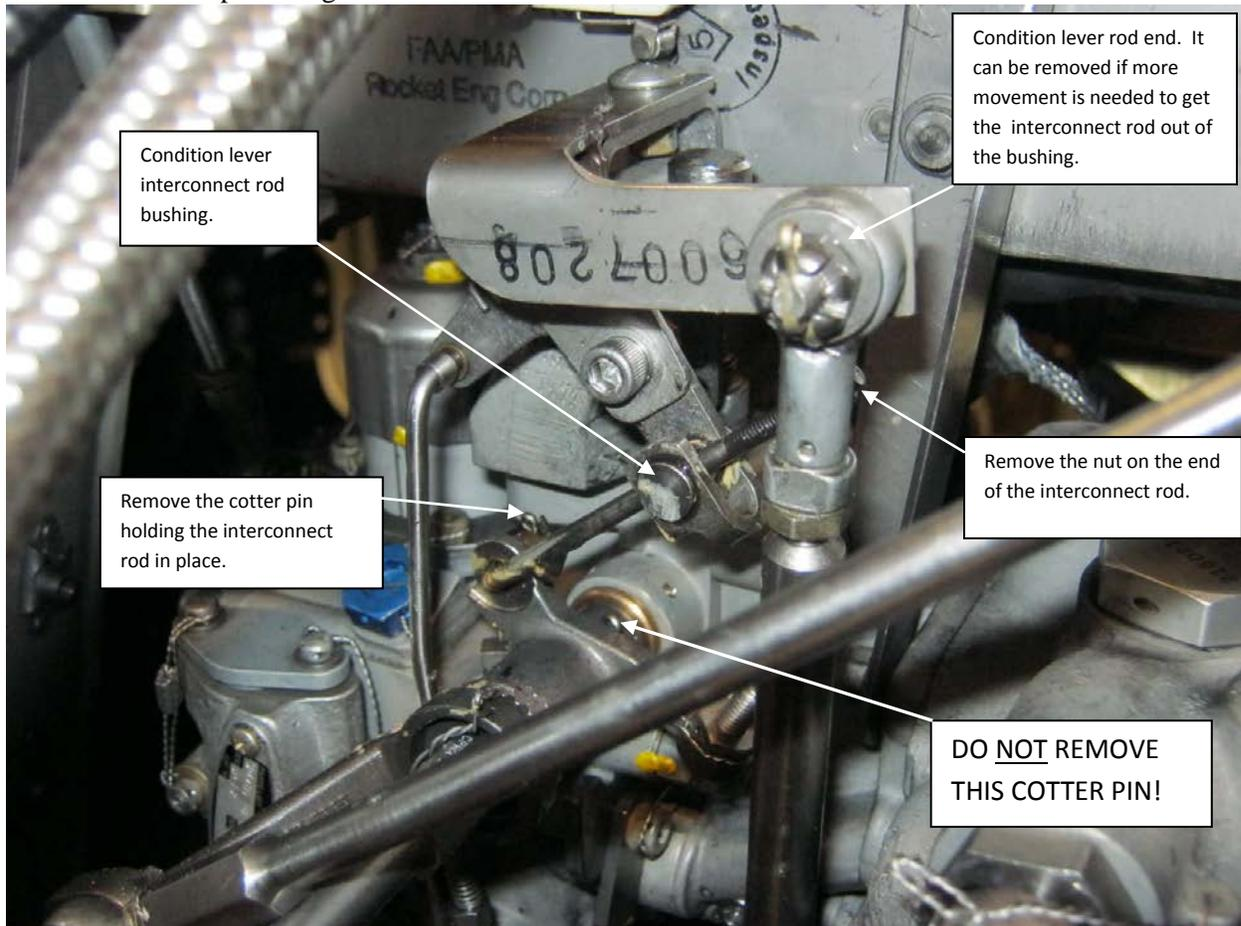

Figure 2. Interconnect Rod
2. Remove the nut (and bushing if still installed) on the end of the interconnect rod. See Figure 2.
3. Remove the cotter pin on the aft inboard side of the interconnect arm holding it in place. See Figure 2.
5. With the condition lever “ON” stop removed the condition lever linkage can be moved far enough to remove the interconnect rod from the bushing in the condition lever linkage. Once it is out of the bushing, remove the condition lever bushing and remove the interconnect rod from the throttle linkage. (If more movement of the condition control is needed to get the interconnect rod out of the bushing, remove the condition lever rod end. See Figure 2.)